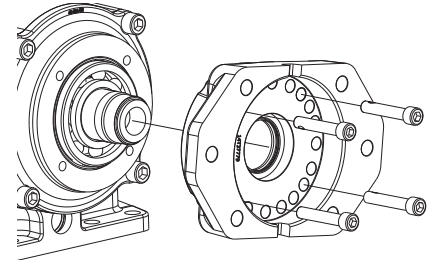

Figure 2 – Flange/Seal Assembly Removal
4. Remove the flange/seal assembly (26) by removing the four socket capscrews (hex head capscrews for a "B" output) (27) from the flange (26) using a  $\frac{5}{16}$ " Allen wrench ( $\frac{9}{16}$ " wrench for "B" output). *See Figure 2*